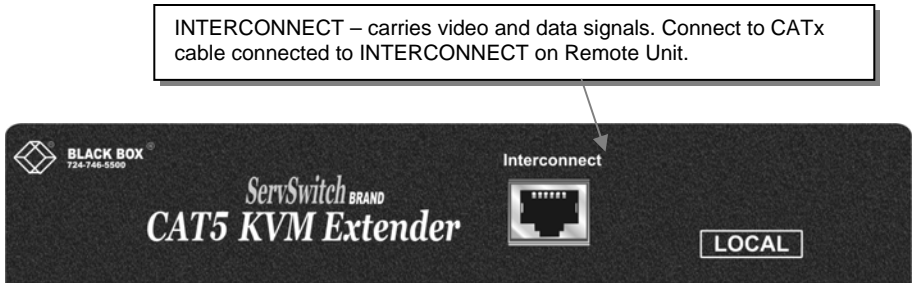

Figure 10 Local Unit – front view
5. Connect the CATx cable to the INTERCONNECT socket on the front of the Local Unit (see Figure 10).